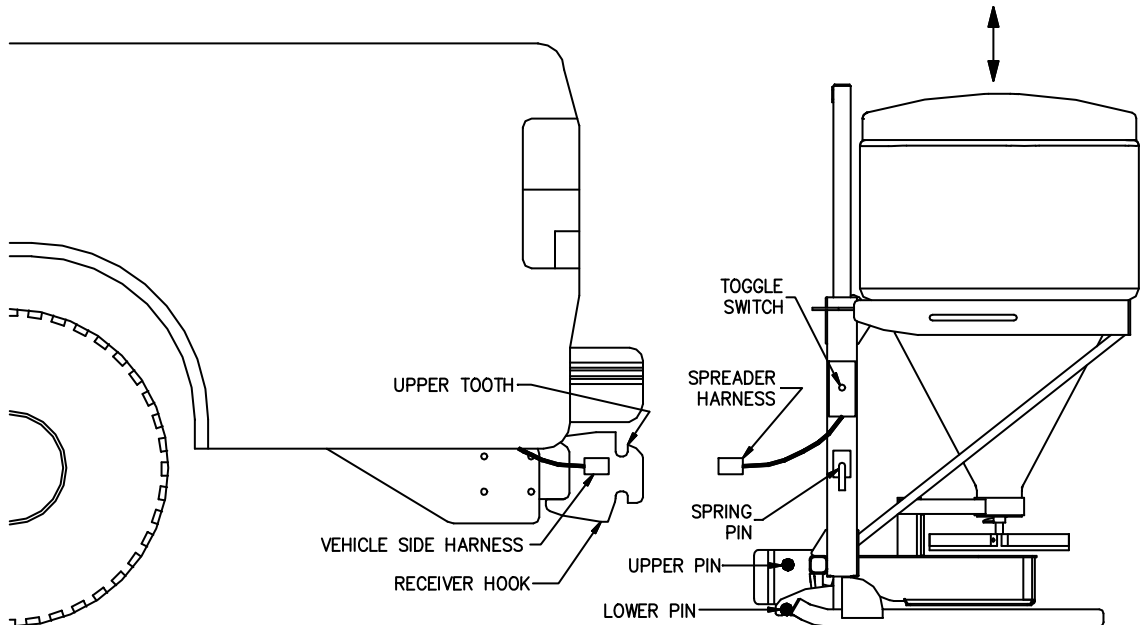

Figure 6.
- 2) Raise the spreader by pushing UP on the toggle switch. Raise the spreader so that the upper pin is higher than the upper tooth on the receiver hook. Refer to Figure 6.
- 4) The spreader must be stored in the lowest position. Lower the spreader to the ground by pushing DOWN on the toggle switch. Refer to Figure 6.